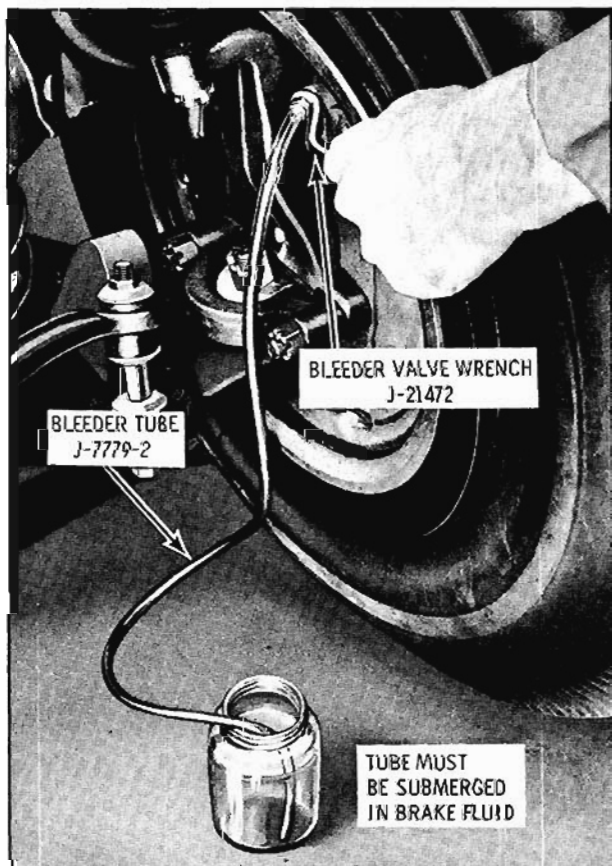

Fig. 11-10 Bleeding Brakes
3. Attach Bleeder Tube J-7779-2 to bleeder valve. (Fig. 11-10) THE TUBE MUST HANG SUBMERGED IN A CLEAN CONTAINER PARTIALLY FILLED WITH BRAKE FLUID, SUPER NO. 11 DURING THE BLEEDING OPERATION.